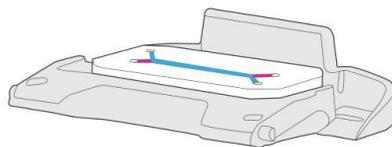

Figure 3: View of chip with no excess ER-1 solution on surface
5. Remove all excess ER-1 solution from the surface of the chip by gentle aspiration. Be sure only to remove ER-1 solution from the chip surface — do not aspirate ER-1 from the channels. (See Fig. 3 below.)